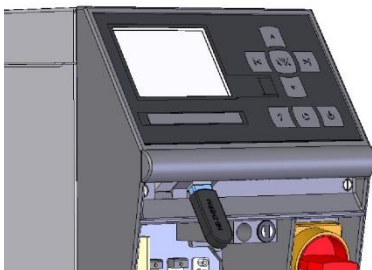

Fig. 56: Connect USB data carrier
2. Connect USB data carrier (Fig. 56).